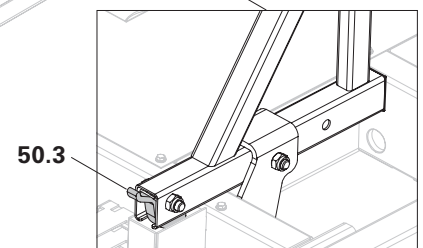

Fig. B3.02
2. The Scaffold Bracket is correctly positioned if the hooks (50.3) of the securing pin are positioned as shown in Fig. B3.02.
Visual and functional check! The hook (50.3) of the securing pin must be held in position with spring force. (Fig. B3.02)